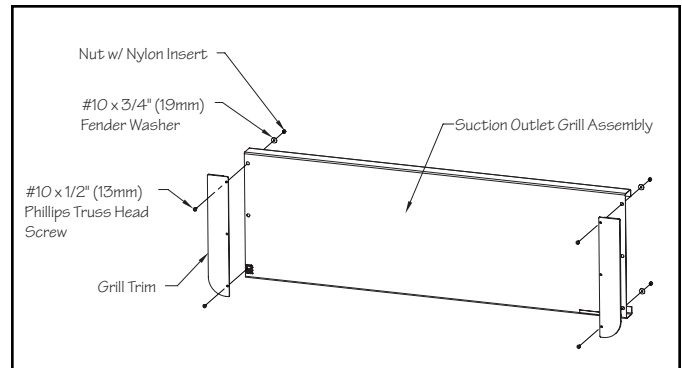

Fig. 109
5. Remove the grill trim from the suction outlet grill by removing the truss head screws, washers, and nuts. Fig. 109.